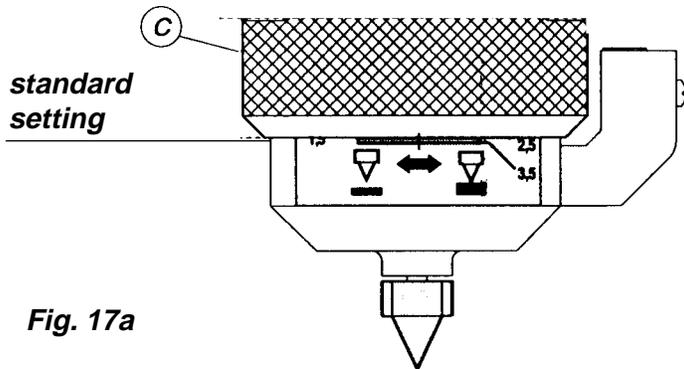
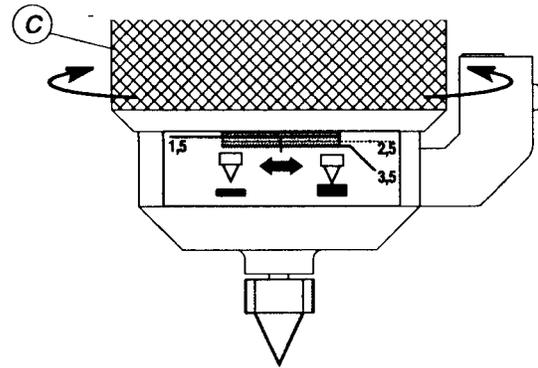

Fig. 17a
Fig. 17b
When the regulating ring is positioned as illustrated by the dotted line in Fig 17a, the machine is set for the standard distance usable with most common key thicknesses. For special thicknesses or to alter the depression depth for operator requirements, use the regulating ring (C) (Fig 17b). Keep in mind that: